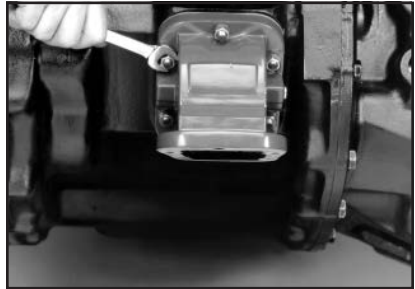

Fig. 9
9. Secure Adapter to the transmission. Use Self Locking nuts provided with Adapter (**Fig. 9**). Torque all flange nuts to their proper specifications.